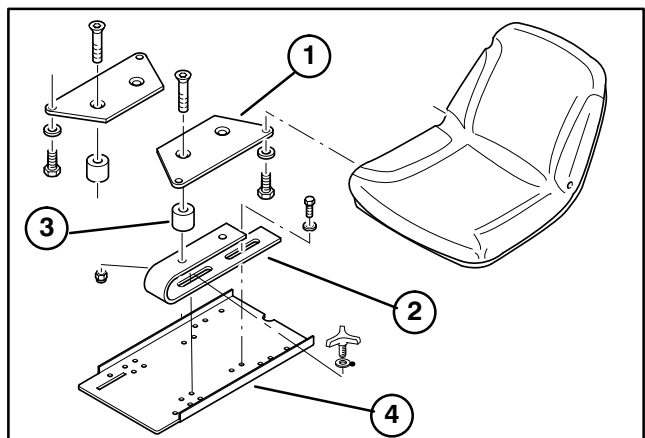

Figure 8
INSTALL SEAT (Fig. 8–9)
1. Mount a seat adapter plate to each seat spring with (2) spacers, socket head screws and locknuts (Fig. 8).
2. Mount each seat adapter plate to bottom of seat with (2) capscrews and washers. Position adapters and springs as shown in figure 8.
4. Loosely mount front of seat springs to seat plate with (2) capscrews and washers and rear with (2) knobs and washers (Fig. 8).